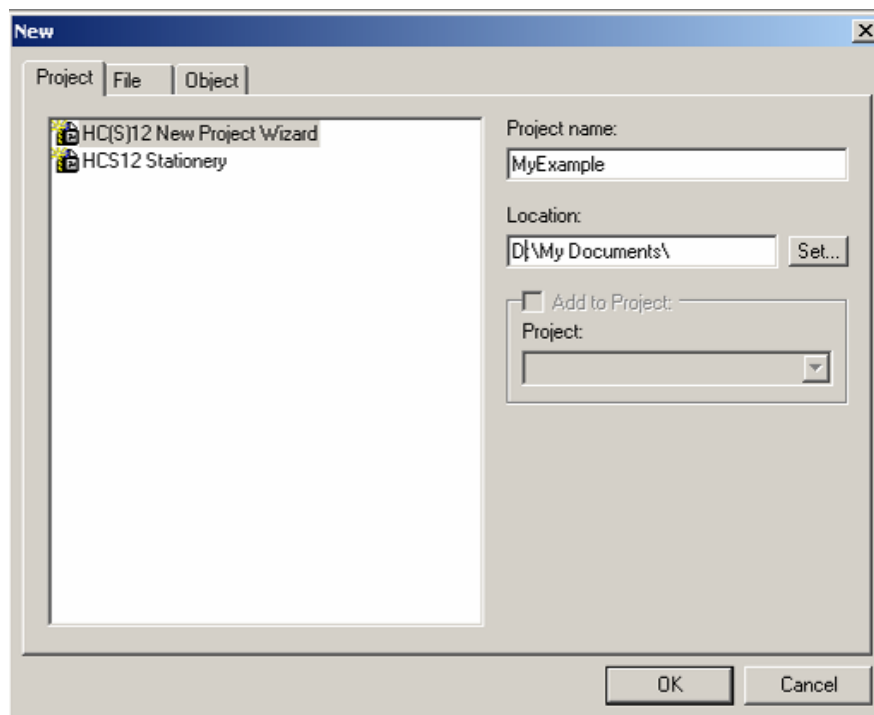

Figure 8. CodeWarrior New Project Window
- 2) From the IDE main menu bar, select: File > New; a new window will appear as seen in Figure 8.